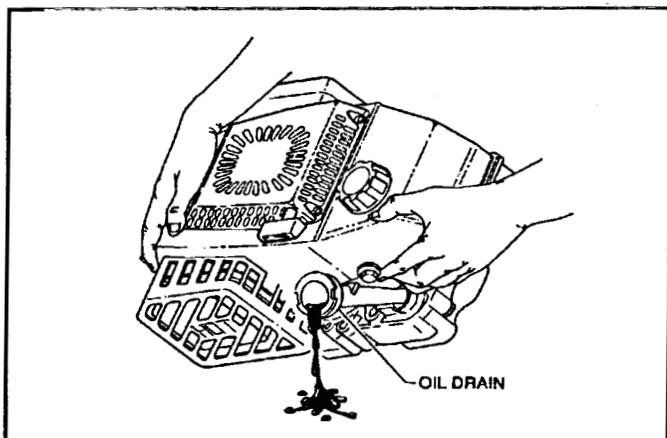

Figure 5
4. Tip the mower on its left side, allowing the oil to drain into the drain pan. See Figure 5.